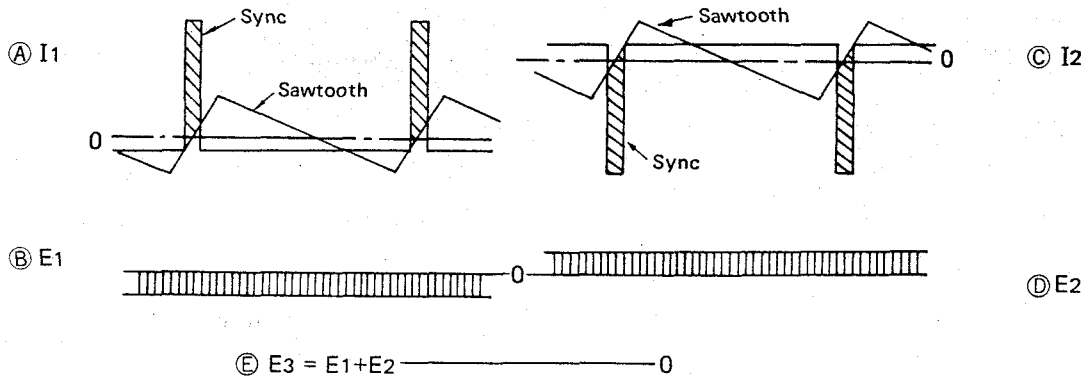

Fig. 98 Phase Comparison-1
If the phases (frequencies) of the sync pulse and sawtooth signal agree, D802 is energized only in the shaded part in Fig. 98 (A), and C811 is charged with current  $i_1$  to generate a changing voltage E1 (B). D803 is energized only in the shaded part (C), and C811 is charged with current  $i_2$  to generate a charging voltage E2 (D).  $i_1$  and  $i_2$  have the same current value, and  $i_1$  flows in C811 opposite to  $i_2$  that flows in C811 so that the charging voltages E1, E2 have the same value but opposite in polarity to each other. The detector output voltage E3 (E) taken out of the crosspoint of R807 and R808 falls to zero so that VCO oscillation frequency remains unchanged.